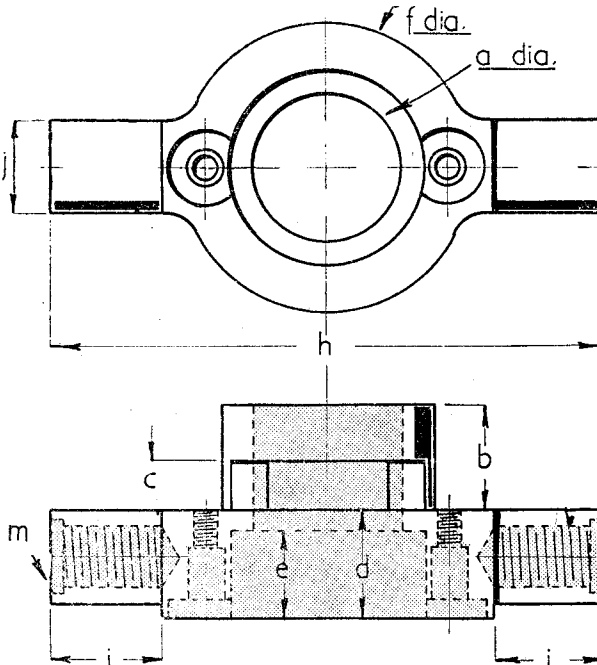
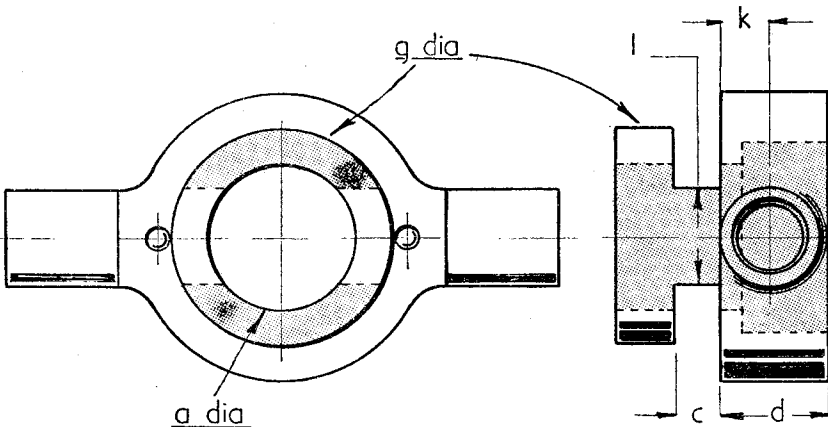

Fig. 8
Fig. 9
Fig. 8. Eclipse No. 3 chuck-type pin vice to approximate. ("A") Hardened jaws permanent shell insert. ("B") Knurled chuck cap. ("C") Knurled main body. ("D") Knurled hollow shaft
size chosen has a nominal chuck capacity of 0.05 to 0.125 in., i.e., handling drills from Nos. 54 to 30, this including the standard shank dental drills or "burrs," of which more anon. Fig. 8 and Fig. 9 (top) shows the No. 3 model chosen, the chuck jaws (A) being a separate split shell
Fig. 9. Top—Eclipse No. 3 chuck-type pin vice, gripping rose head-type dental drill. Centre—Spindle fully machined with extension driving spigot pinned in position. Lower centre—Left, nose-piece casing; Right, extension casing. (Main bearing bush pressed in front of nose-piece) Bottom—Left to right. Chuck cover hood, case-hardened washers and brass cage of thrust-race, rear bearing, and terminal securing collar
and inserting a $\frac{3}{32}$ -in. drill: it should run truly and be tightly gripped (Fig. 9, middle).
The terminal securing collar is mild-steel turned $7/16$ in. diameter, $1/4$ in. long, bored No. 2 drill and drilled transversely $1/8$ in. Whit. tapping drill, which is then tapped for two small $1/8$ -in. Whit. securing set-screws (Fig. 9, bottom). The nose-piece is now ready for assembly, the front and rear bearings having been checked independently for running fit on the main chuck spindle. The chuck spindle, with nose cap fully tightened, is now inserted, a clearance of at least $1/16$ in. being allowed between recessed shoulder of chuck cap and face of the bushed nose-piece body, this being secured by a cardboard washer which can be later cut away. The rear end of the body is then held upwards and the thrust washer with No. 2 drill size hole pushed down to seat snugly on the shoulder of the shaft, the ball cage loaded with grease, with balls imbedded, is then pushed down followed by the second thrust washer No. 1 size drill centre hole. The rear bearing is then pushed gently down until home against the thrust washer, the main spindle not having been disturbed: opposed pilot holes are then drilled through the casing over the inserted rear bearing bush to register on the bush within, and this is then gently withdrawn, drilled 6 B.A. tapping drill and threaded, the casing holes are enlarged to 6 B.A. clearance and countersunk; the bush is reinserted and fixed with countersunk-head 6-B.A. set-screws, short enough to clear the bore. The terminal collar is now pushed on and the cardboard spacer under the chuck cap cut away, any slack in the thrust bearing is taken up, and the terminal collar secured by the set-screws.
The finished dimensions of this part are indicated by letters in the working drawings in Figs. 8 and 9; these letters refer to the figures given in the accompanying Table, Fig. 10. It will be seen that this Table, as well as others that follow, has the dimensions set out in three horizontal lines: *A*, *B*, and *C*; these refer to die-holders for use with $\frac{13}{16}$ in., 1 in., and $1\frac{1}{16}$ in. dies respectively, and this scheme will be adhered to throughout. The